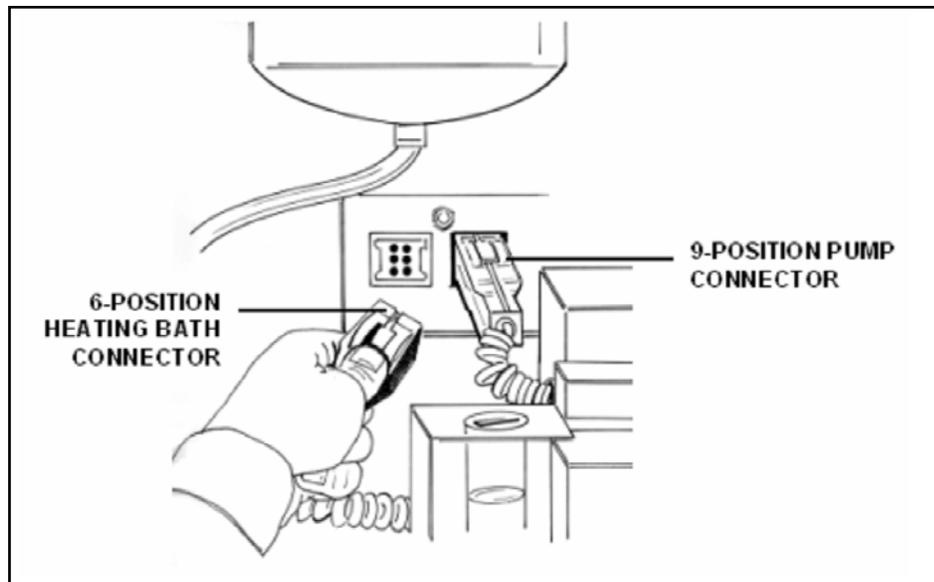

Figure 2-7. Pump Connector
2. Align the hinge pins and sockets, and slide assembly tray as far as possible to right (see Figure 2-7). Carefully lay tray down into cabinet